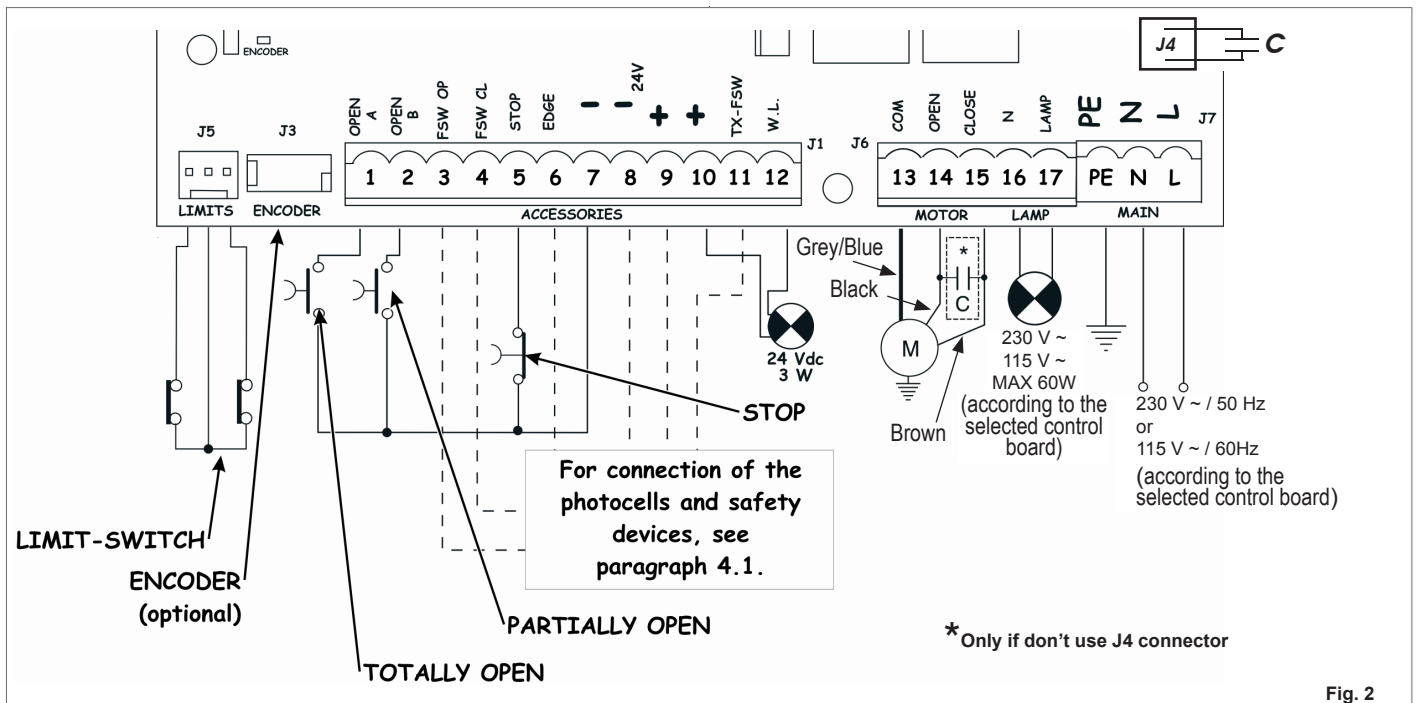

Fig. 2
4.2. J7 Terminal board - Power supply (fig. 2)	page.4
4.3. J6 Terminal board - Motors and flashing lamp (fig. 2)	page.4
4.4. J1 Terminal board - Accessories (fig. 2)	page.4
4.6. Connector J6 - Limit-switches rapid connection (fig.2)	page.5
4.7. Connector J3 - Encoder rapid connection (fig.2)	page.5
Connect the earth cable to the appropriate terminal on the J7 connector of the equipment (see fig.2).
4.2. J7 Terminal board - Power supply (fig. 2)
4.3. J6 Terminal board - Motors and flashing lamp (fig. 2)
4.4. J1 Terminal board - Accessories (fig. 2)
4.6. Connector J6 - Limit-switches rapid connection (fig.2)
This input is intended for rapid connection of the opening and closing limit-switches designed to stop the leaf, or for start of decelerations or for braking (see advanced programming in Chpt. 5.2.). In gearmotors with a built-in control unit, this connection is pre-wired as standard (fig. 2). For leaf opening direction, see advanced programming in Chpt 5.2.
4.7. Connector J3 - Encoder rapid connection (fig.2)